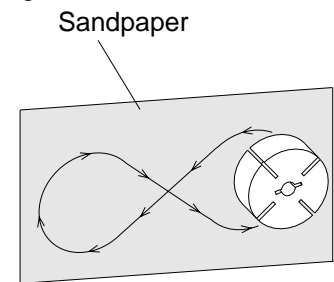

Figure 20 - Sanding Rotor
14. Place fine grade sandpaper (600 grit) on flat surface. Sand rotor lightly in "figure 8" motion four times (see Figure 20).